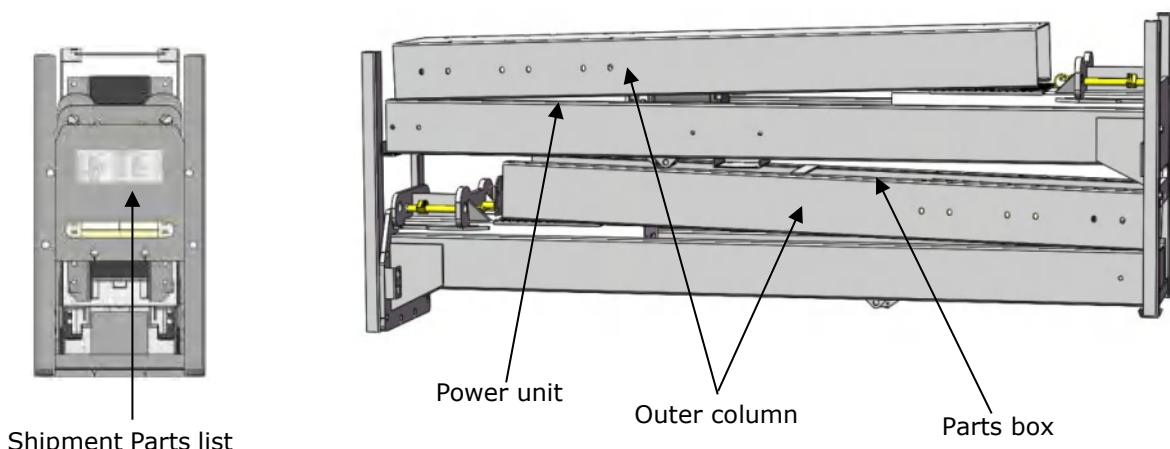

Fig. 11
2. Move the lift aside with a fork lift or hoist, open the package and check the parts according to the shipment list. (See Fig. 11)